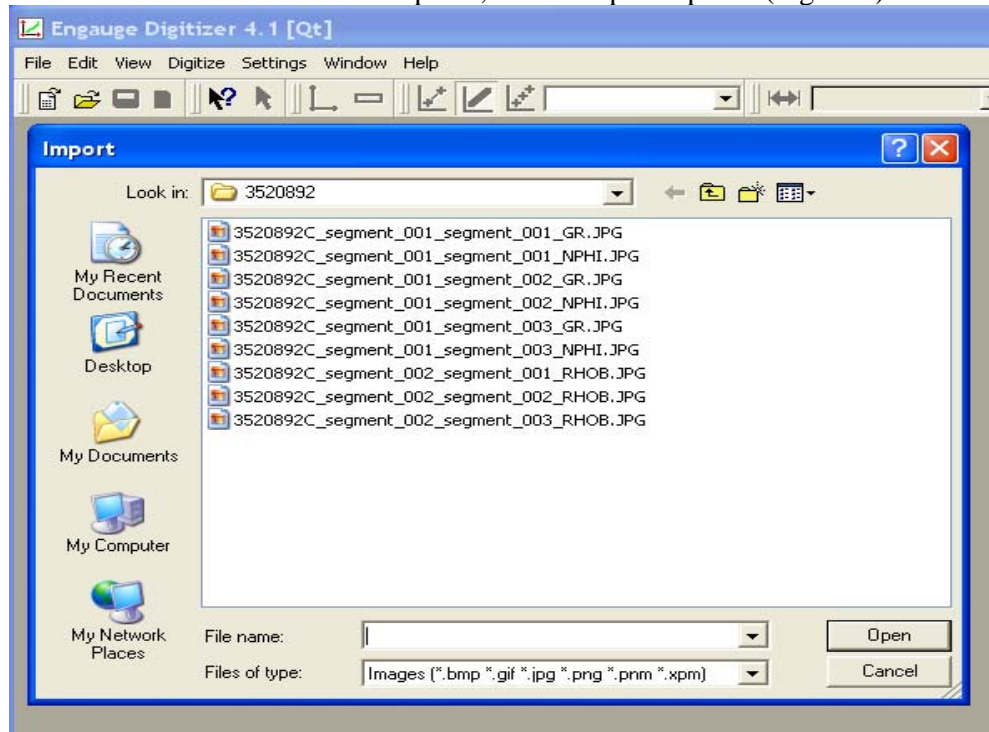

Figure 1, Import Panel
a. Click on File button on main panel, Select Import Option. (Figure 1)